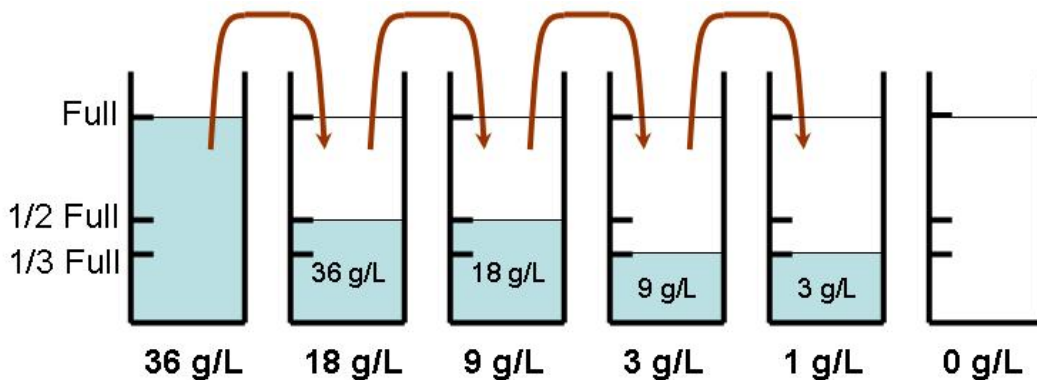

Figure 3. Diluting a saline solution for calibrating a sensor.
- 5) Fill the cup with fresh (0 ppt) water. Now the water in the cup will have salinity equal to half of what it was before, 18 ppt. Refer to Figure 3.